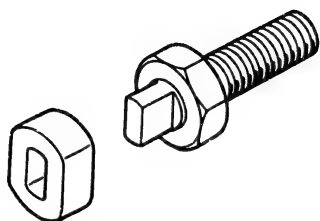

Fig. 214 Joint and adjusting bolt
2. Check that the joint is not damaged and that it is firmly connected to the pin and the adjusting bolt. (Fig. 214)